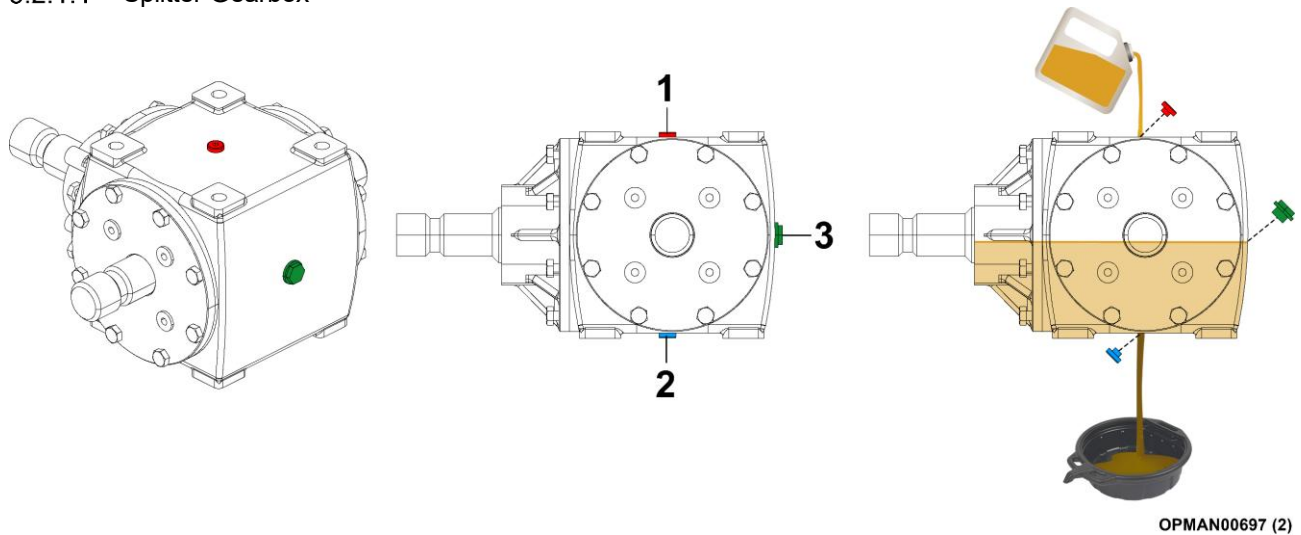

Figure 5.2 – Multicut Splitter Gearbox
To drain the oil/grease, each of the gearboxes is fitted with a **drain plug**. With reference to Figures 5.2 (2) and 5.3 (2), the locations of these drain plugs can vary. If there are facilities to vacuum draw the oil/grease out of the respective gearbox, the oil/grease can be changed through the fill hole/dipstick location instead which is considerably easier; see Figure 5.2 (1) and 5.3 (1).
- The splitter gearbox utilises a level plug which should be removed and visually inspected to ensure the grease is up to height of the plug; see Figure 5.2 (3).
- On the splitter gearbox, add enough grease to the point where grease is beginning to seep out the level plug; see Figure 5.2 (3), **before proceeding to use the machine**.